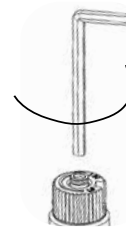

Fig.2
- 15) Insert a 5/32" or 4mm Allen wrench into the hexagonal key-way of the screw (Fig. 2), rotate it counter-clockwise until it is free and extract it.